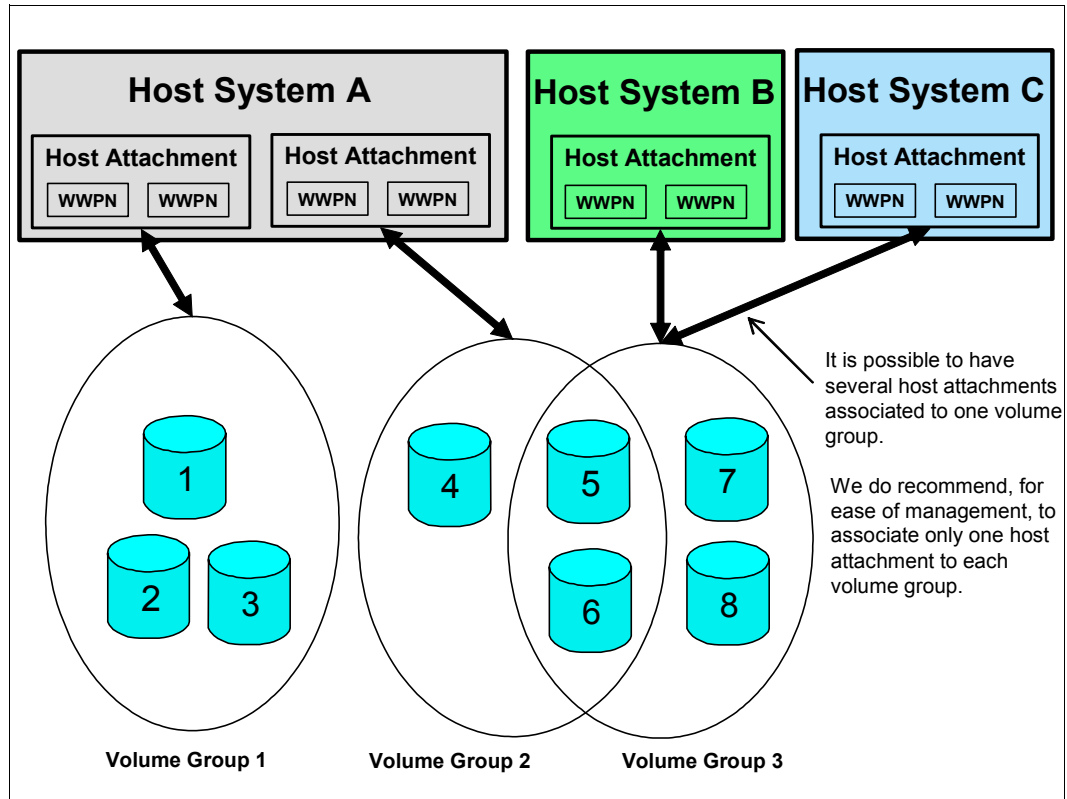

Figure 10-4 Example of volume groups, LUNs and host attachment definitions
- ▶ In order to share LUNs across multiple host attachments, LUNs can be in more than one volume group as shown in the example in Figure 10-4 on page 196.
In Figure 10-4 we show three hosts (host A, host B, and host C) defined in the logical configuration as three different *host systems*. The user will group the WWPN of each host system in groups called host attachments. As shown in the diagram, each host attachment is assigned to one volume group. Volumes can belong to several volume groups. For example, volumes 5 and 6 are in volume group 2 and volume group 3, so they will be shared by host A, host B, and host C. Several host attachments can be associated to the same volume group. For example, hosts B and C will share volumes 5, 6, 7, and 8 because their host attachments are assigned to the volume group 3. However, for management simplification, we recommend that only one host attachment is assigned to each volume group.